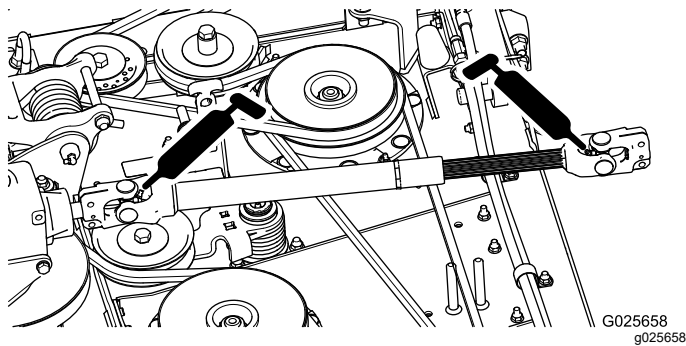

Figure 18
- PTO drive shaft (2) (Figure 18)